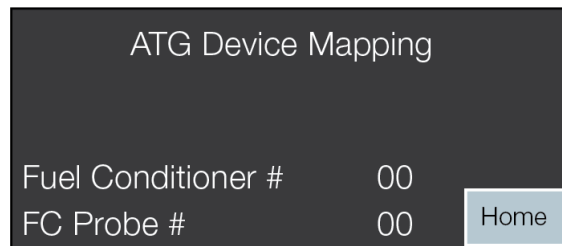

Figure 10. ATG Device Mapping Screen
1. Touch the **Next** button to display the ATG Device Mapping screen (see Figure 10).